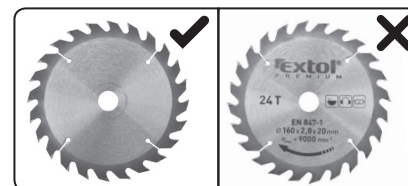

Fig. 11
- The Extol® replacement saw blade must be installed in the circular saw orientated so that the saw teeth correspond to the direction of the arrow on the saw blade cover as shown in fig. 3, position 5, i.e. the saw teeth must be oriented upwards from the base plate of the circular saw and not downwards (with the label on the saw blade facing towards the saw), see fig. 11.